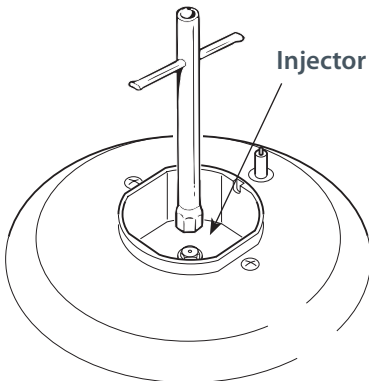

Fig. 8 Auxiliary, rapid and semi-rapid burners
- 2 Using a spanner, remove the injector (Figs. 8 and 9) and replace it with one according to the gas type (see ‘Table for the choice of injectors’).